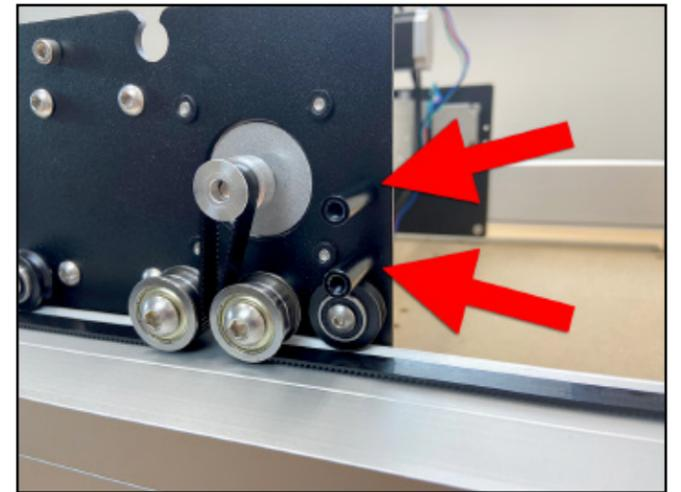

Figure 6-8
4. Install the two (2) 30mm male-to-female standoffs to the **OUTSIDE** of the Y2-carriage. See **Figure 6-8**.